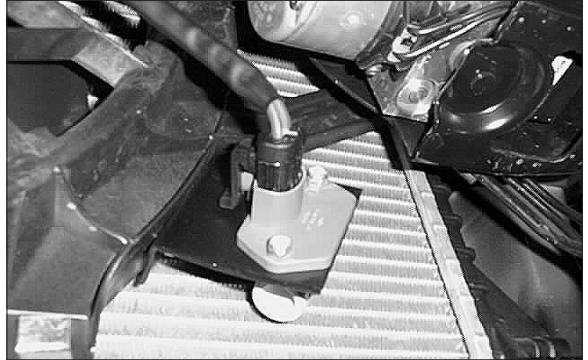

Fig. 7-a
- B. **Cobra:** Unsnap the resistor from the fanshroud bracket. (See Fig. 7-b.) Pull the wire clips securing the wires to the fan away from the shroud so that the resistor can reach down. With the supplied relocation bracket and sheet metal screws mount the resistor (see Fig. 7-a).
- C. **SHROUD MODS:** Trim the plastic which holds the fan high/low resistor as shown in Fig. 7-b to give clearance for the inlet duct.